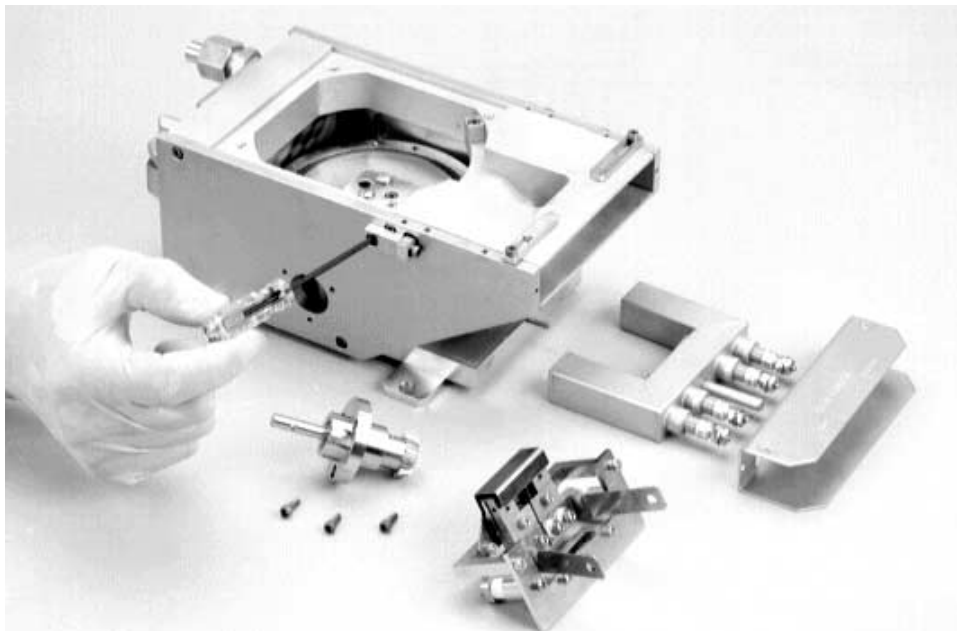

Figure 6-9. Removing the screw securing the left-hand internal pole-piece extension to the pole piece
Step 9: Remove the screw that secures the internal pole piece extension assembly to the left-hand pole piece, as shown in Figure 6-9.